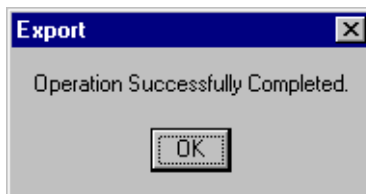

Figure 2.15. Export Successfully Completed Message Box
10. A message box opens indicating the file exported successfully (Figure 2.15).